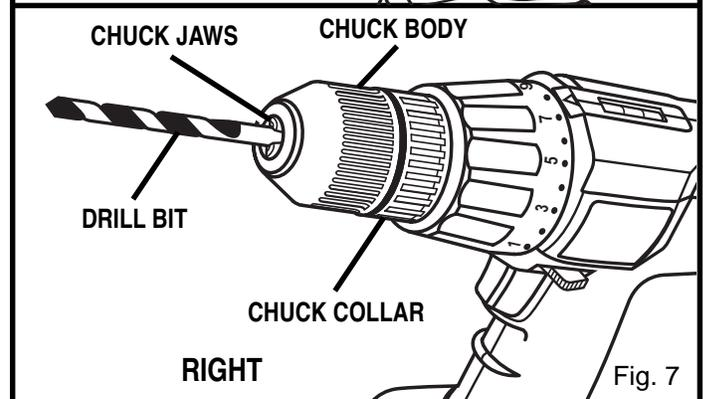

Fig. 7
- Insert your drill bit into the chuck the full length of the jaws. See Figure 7.
See Figure 7.